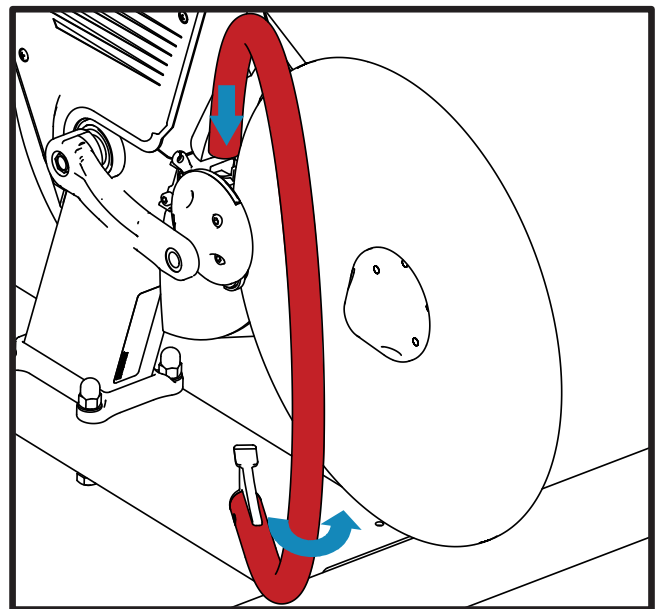

Figure 7. Center Flywheel Guard Over Flywheel
3. Swing the guard over the flywheel, refer to Figure 7.